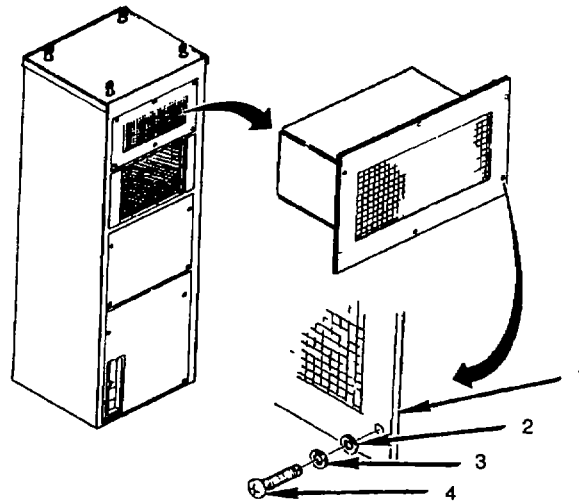

Figure 4-2. Evaporator Duct/Panel Removal
4.10.1 Evaporator Duct/Panel. Remove six screws (4), lockwashers (3), flat washers (2), and remove panel (1) (see fig 4-2).